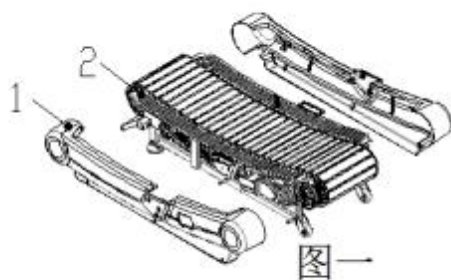

Figure 1
A、 Take down side boards (2)、 side shells(1) (Figure 1)
F、 Re-installing foot pedal (01), side shell (02). (Figure 1)